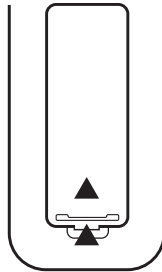

Fig 5.
1. Press the small tab at the bottom of the battery compartment upwards as shown. And remove the battery compartment cover (**Fig 5**)